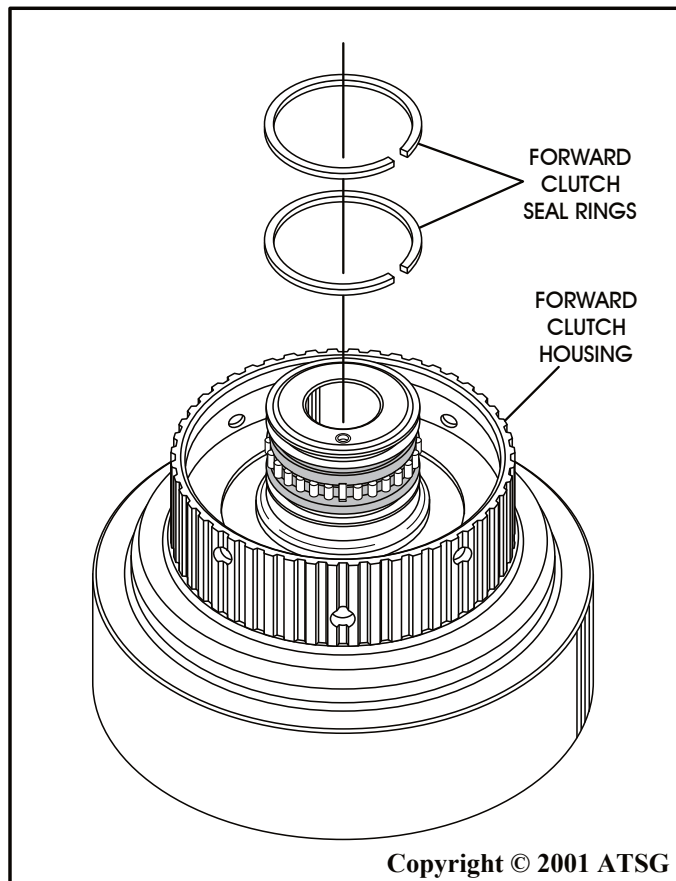

Figure 83
5. Install new sealing rings into their grooves on the forward clutch housing (See Figure 83).